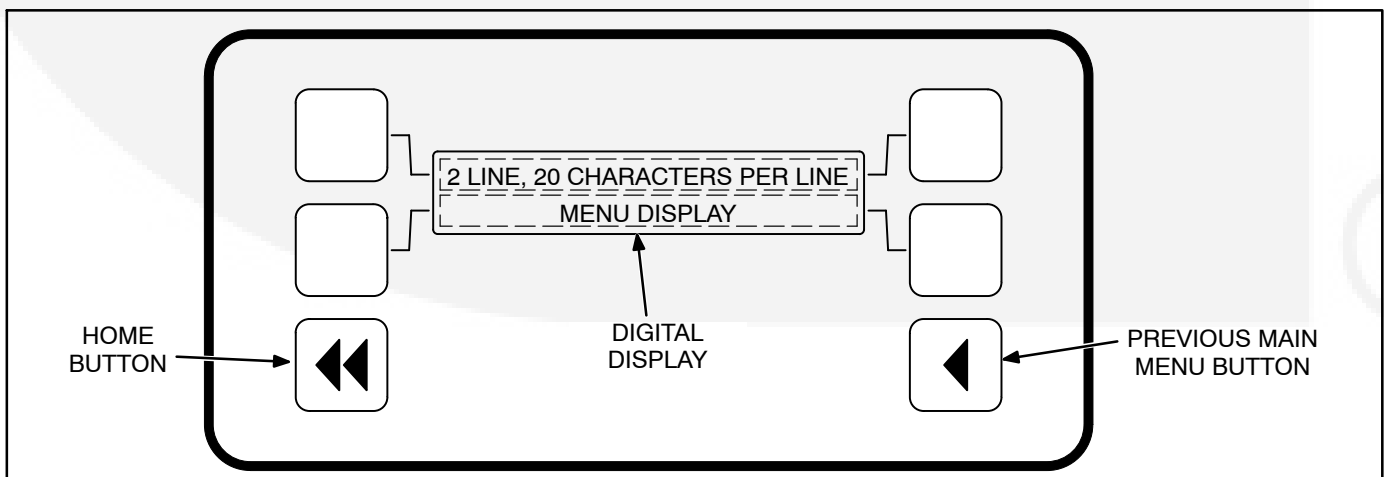

FIGURE 3-2. DIGITAL DISPLAY AND MENU SELECTION BUTTONS
Figure 3-2 shows the digital display and the menu selection buttons.
**Home Button:** Pressing this button causes the operating system to show Main Menu 1 (Figure 3-2) in the digital display.